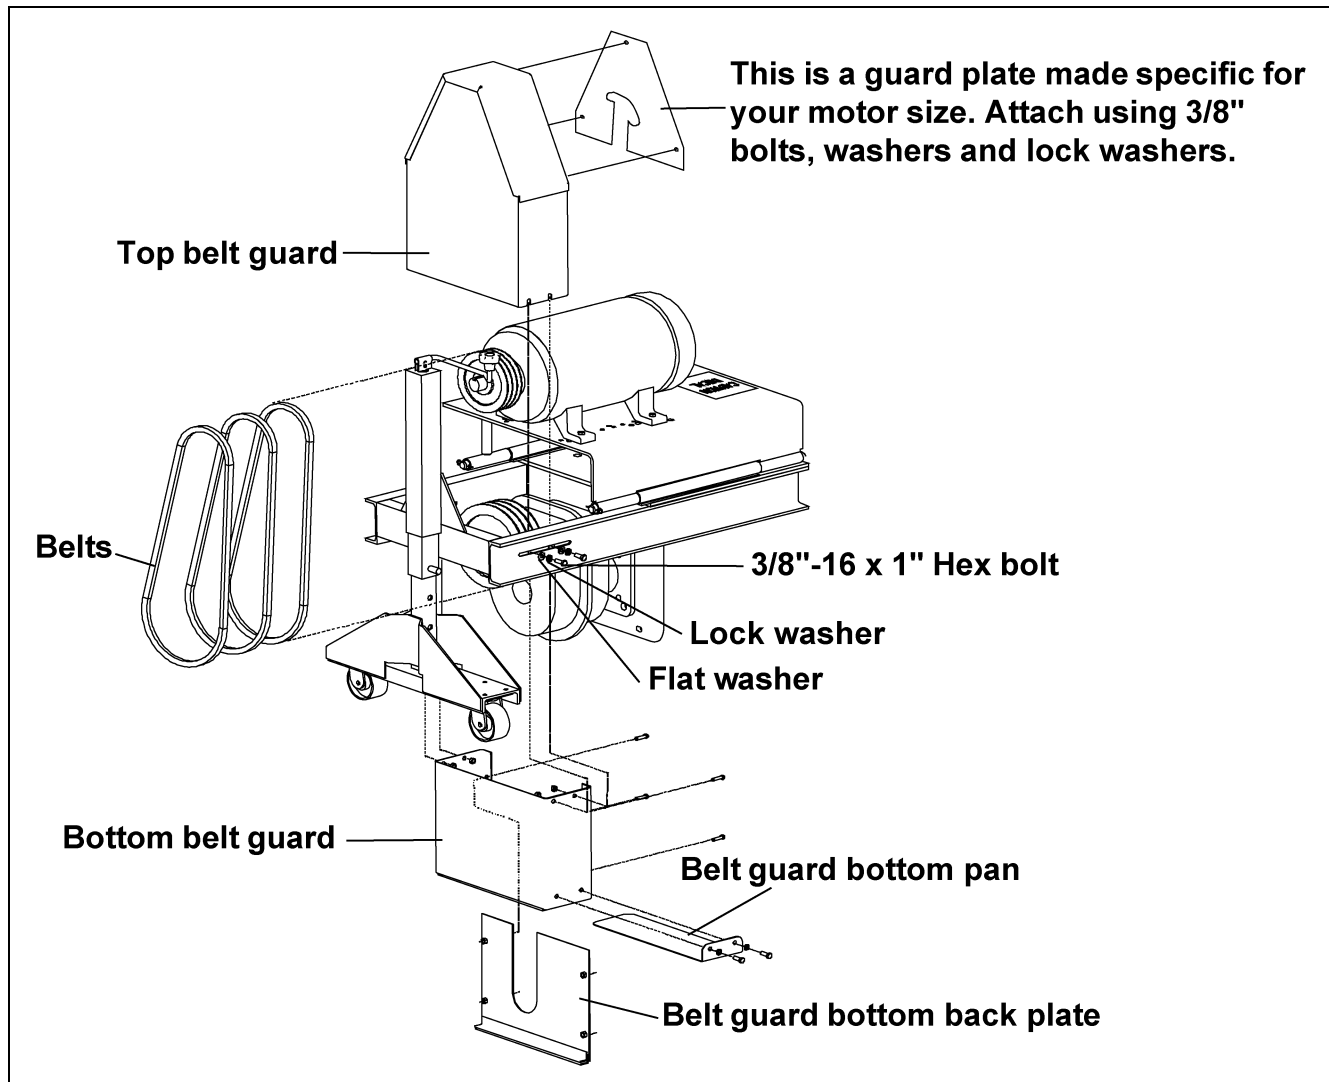

Figure 5AH
H. Slide the top belt guard over the bottom belt guard as shown in See Figure 5AH and tighten bolts.